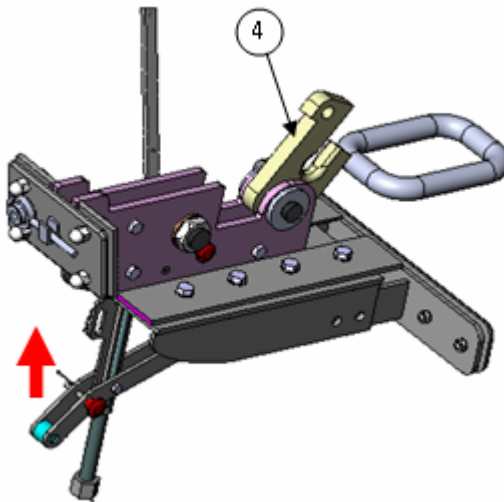

Fig. 5.5.1 Recovery principle of the hook unit in the lifeboat
Finally, insert the safety-pin (item 20) and the snap-pin (item 42). (See figure 5.5.1)